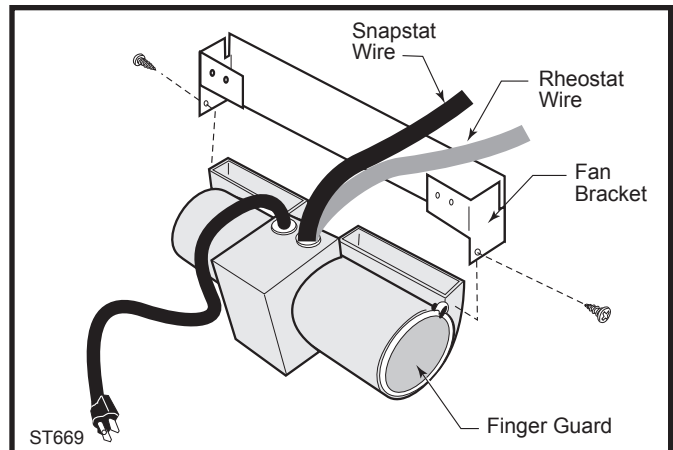

Fig. 16 Attach the fan assembly to the fan bracket.
5. Attach the fan assembly to the fan bracket provided in the finish bag. Use the #10 sheet metal screws provided with fan kit. Do not remove finger guard screws. (Fig. 16)